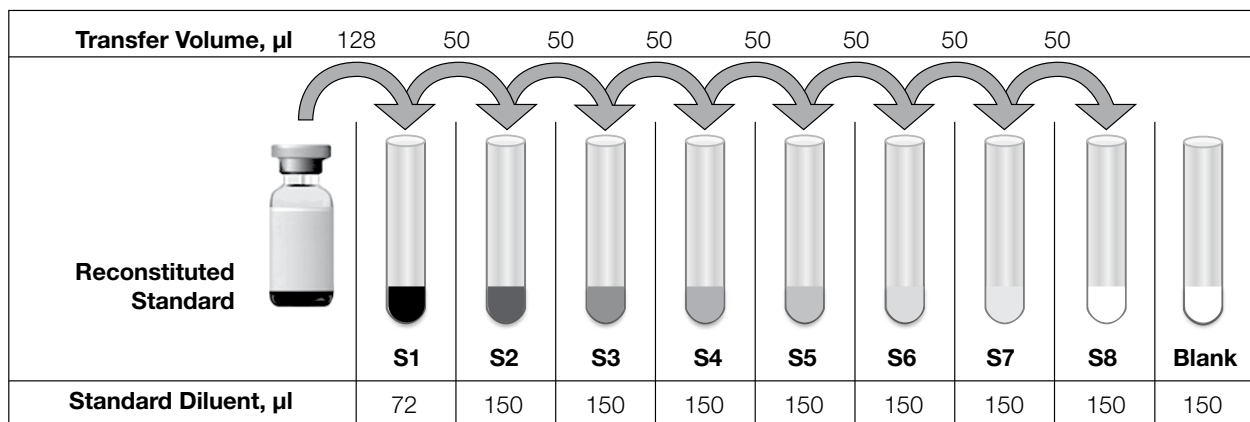

Fig. 3. Preparing a fourfold dilution series of diabetes standards.
2. Add the specified volume of standard diluent to each tube (Figure 3).
4. Continue with 1:4 (fourfold) serial dilutions from tube S2 to S8 as shown in Figure 3. Use reconstituted and diluted standards immediately. Do not freeze for future use.